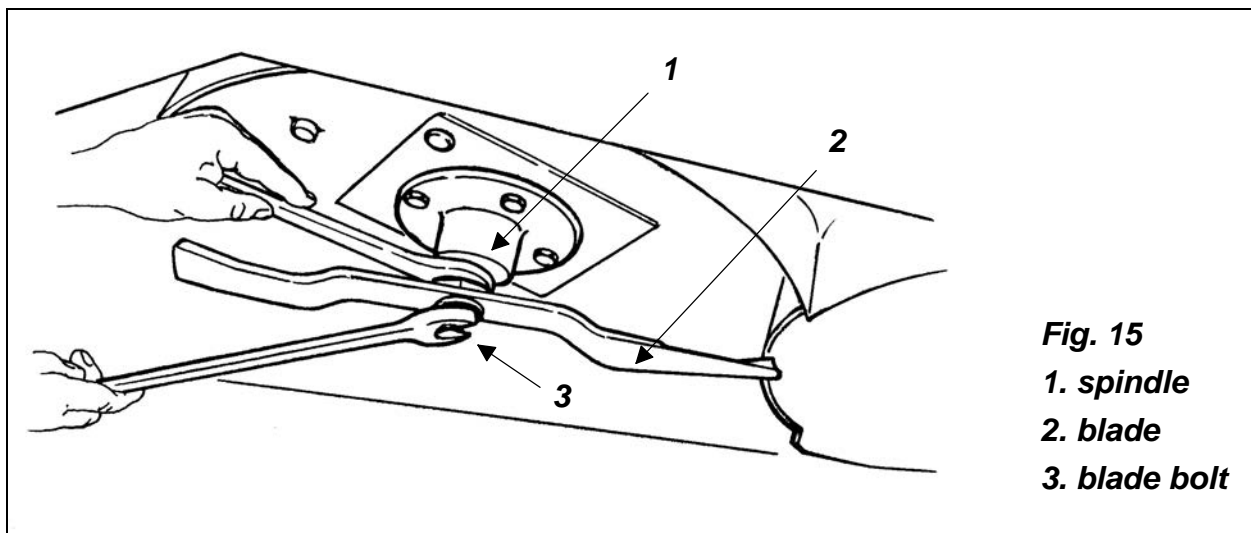

Fig. 15
3. With a wrench, block the spindle and tighten the bolt to 103 lb.ft. (**see fig. 15**).